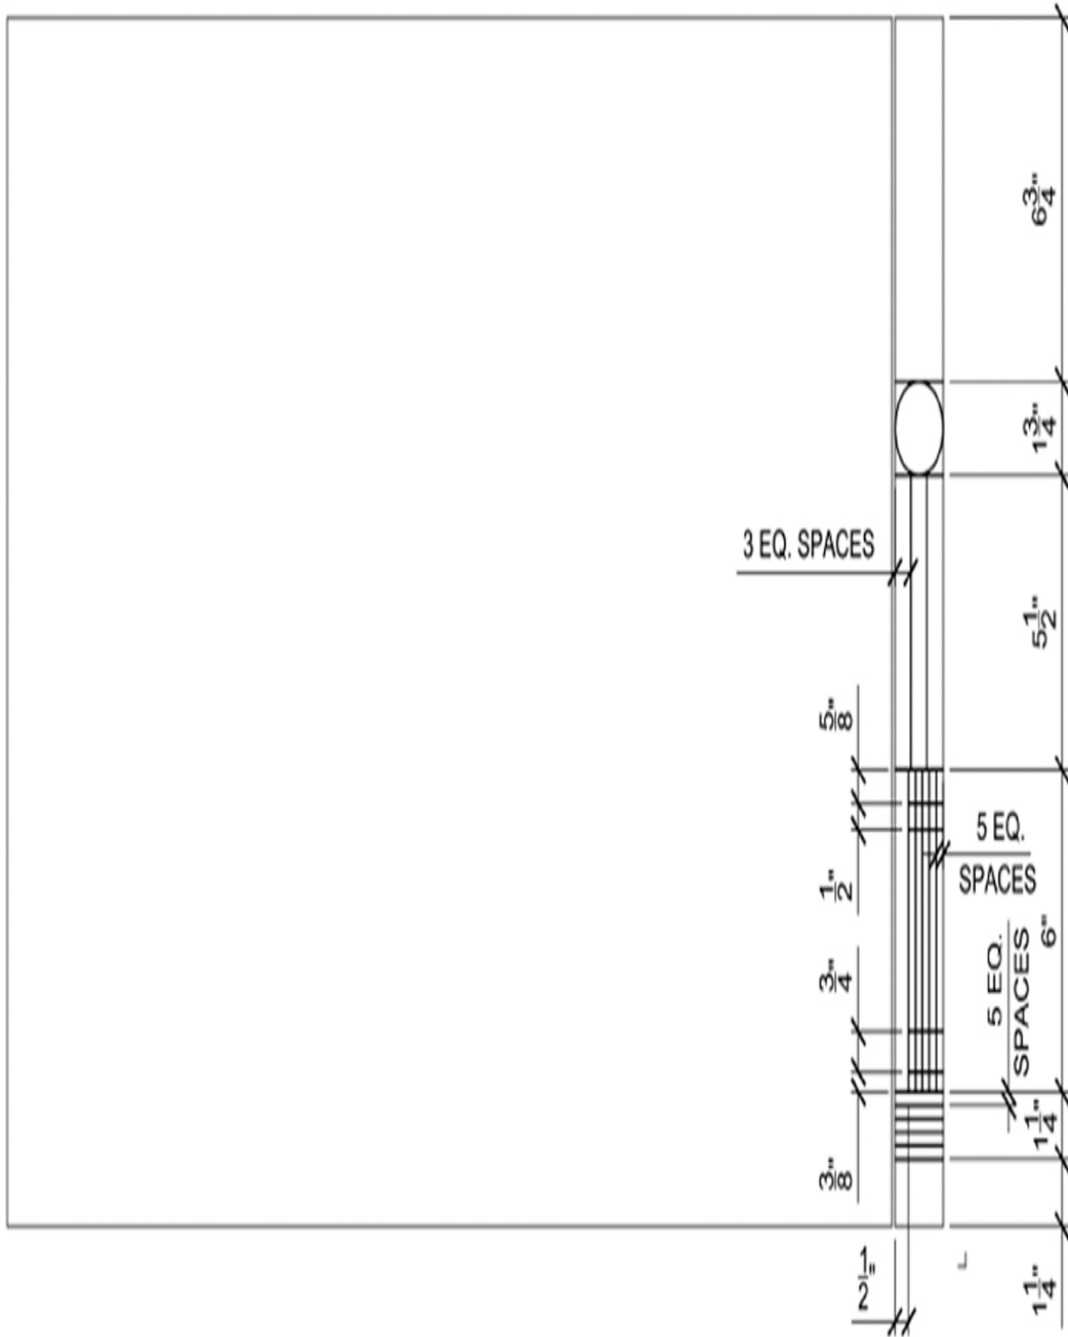

Figure 5-72
2. Add the line work to the border as shown in Figure 5-72 using construction lines and object snaps to your advantage. *Hint:* You can use the **DIVIDE** command to lay out the equally spaced title block lines.